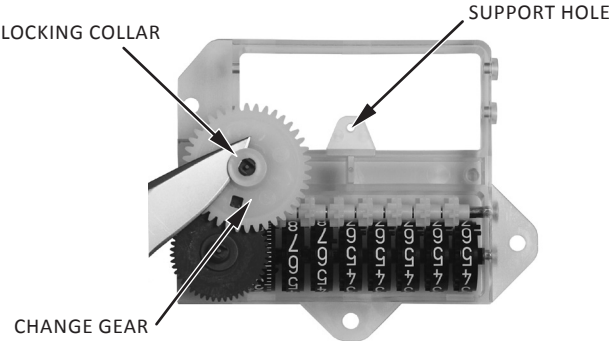

Figure 14. Change gear removal
7. Transfer the change gear from the damaged index to the replacement [Figures 14 and 15].